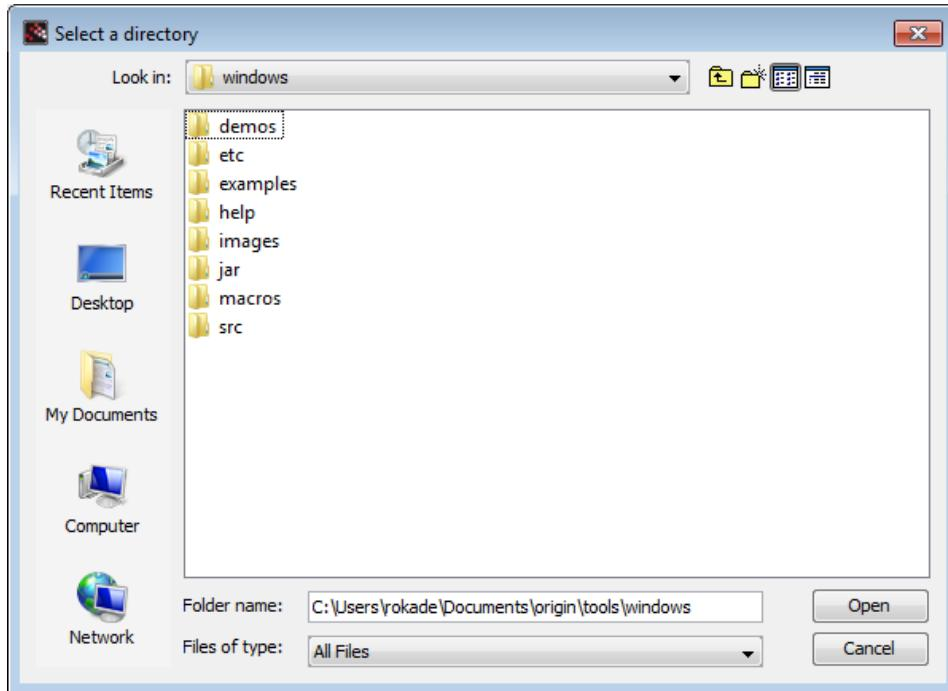

Figure 3.7: Browsing toolbox directory
3. Then, one has to browse to the toolbox folder `Origin/tools/scilab/windows` or `Origin/tools/scilab/linux`, as the case may be, and click on, Open, as shown in Fig. 3.7.